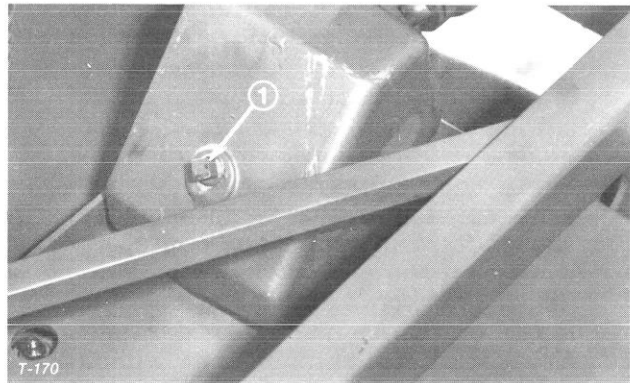

Figure 19
2. Lower cutting unit so castor wheels are on a level surface. Be sure all height-of-cut pins are in the same hole locations. Remove filler plug (Fig. 19) from gear box and check level of lubricant. If level of lubricant is low, add SAE 10W-40 or 10W-30 SF engine oil until level is up to bottom of filler hole. Wipe any metal particles off filler plug and install filler plug.